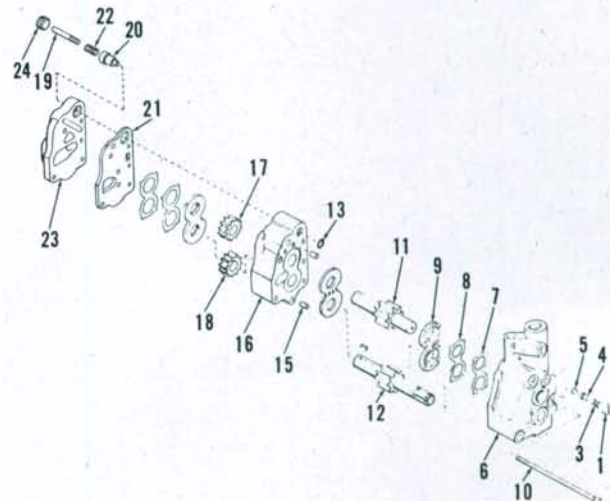

**Fig. 303—Exploded view of single section auxiliary pump used on some models.**
**230.** Two different auxiliary pumps have been used. Single section pump shown in Fig. 303 is used on tractors equipped only with Multi-Power transmission and/or independent pto. Dual section pump shown in Fig. 304 or 305 is used on tractors equipped with auxiliary hydraulic system and also Multi-Power and/or independent pto.
**231. SINGLE PUMP.** Refer to Fig. 303 for an exploded view of single element auxiliary hydraulic pump used on some models.